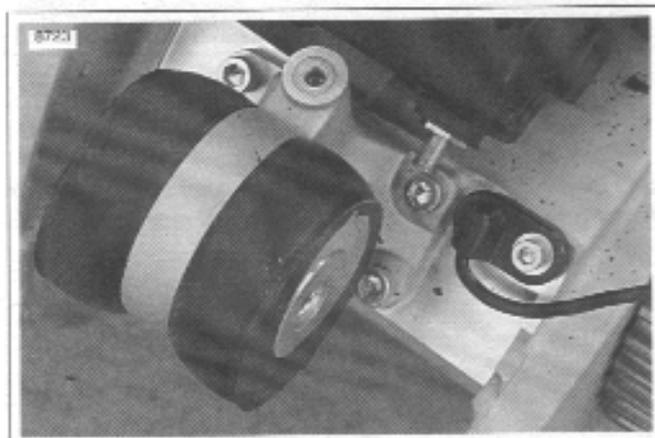

Figure 3-35. Rear Isolator and Mounting Hardware
1. See Figure 3-35. Install rear isolator assembly by installing the two rear fasteners first and then the two forward fasteners (re-install with new fasteners). Tighten to 25-27 ft-lbs (33.9-36.6 Nm).